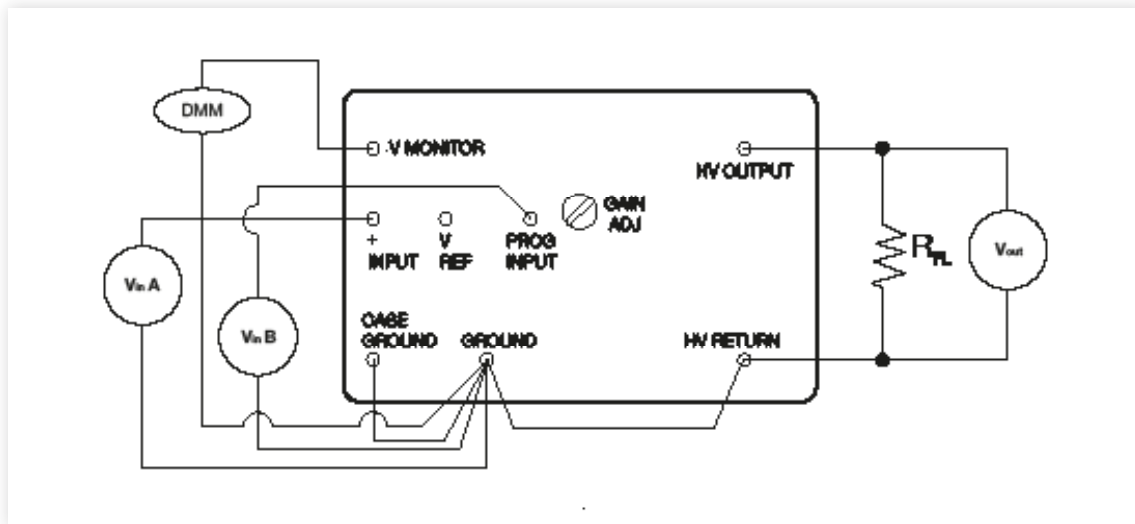

Figure 2: CA model bottom view
1. Make Connections as shown in Figure 2. Refer to CA Data Sheet for more information and detail.